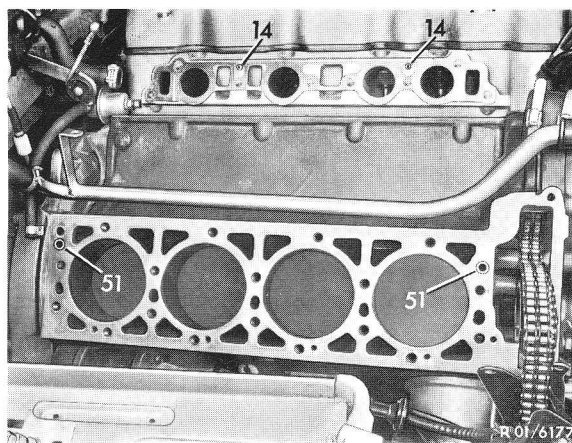

Fig. 4
Note: The intake pipe is located by four hollow dowel pins (14) (Fig. 4).